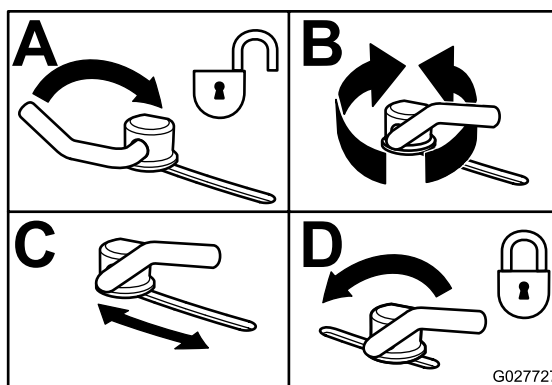

Figure 35
- To adjust the cam locks, swing the lever up to loosen the cam lock (Figure 35).
- Swing the lever back over to tighten the baffle and cam locks (Figure 35).